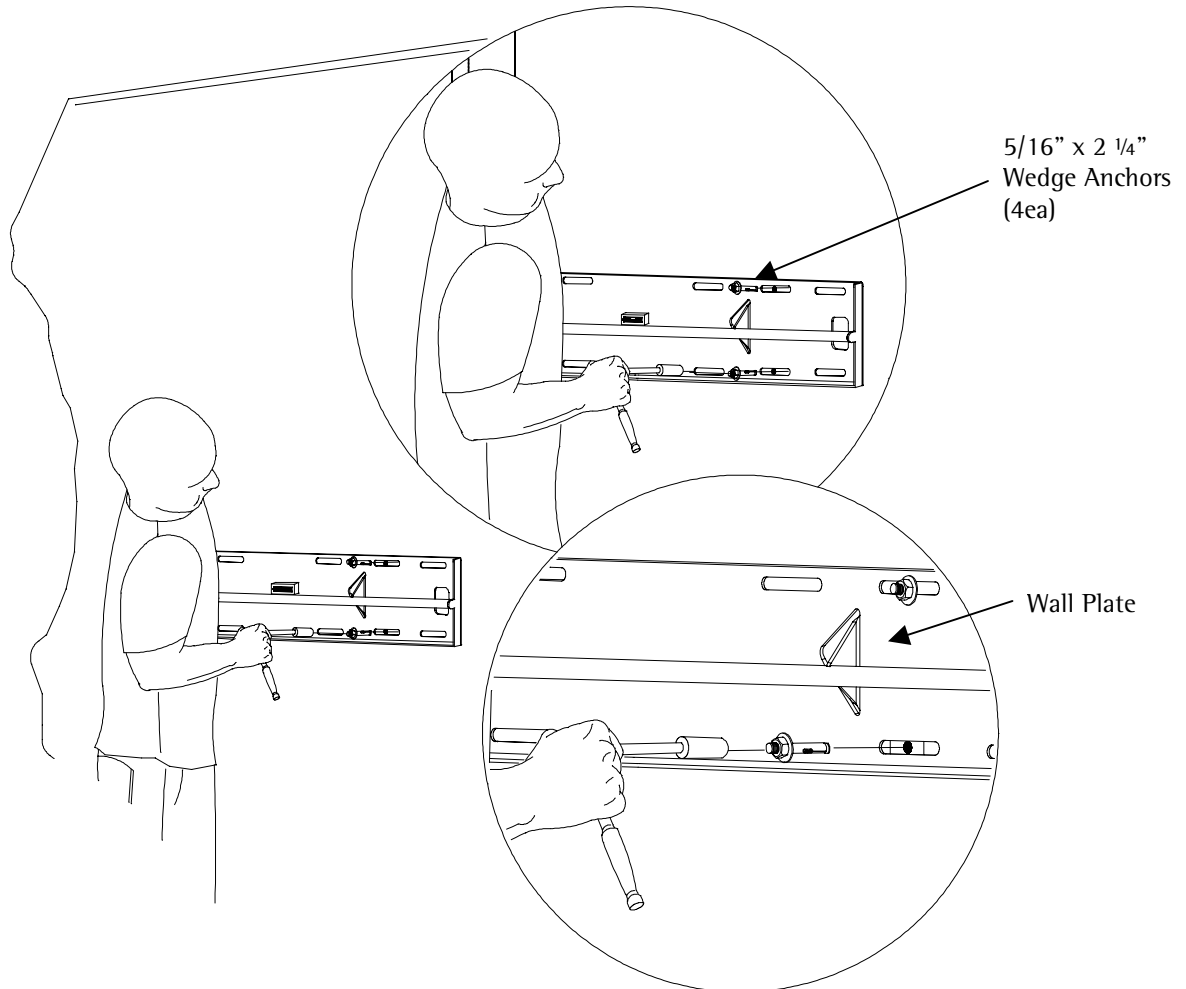

Figure 14. Concrete Installation
2. Use a minimum diameter of 5/16" x 2 1/4" wedge anchors (Figure 14).